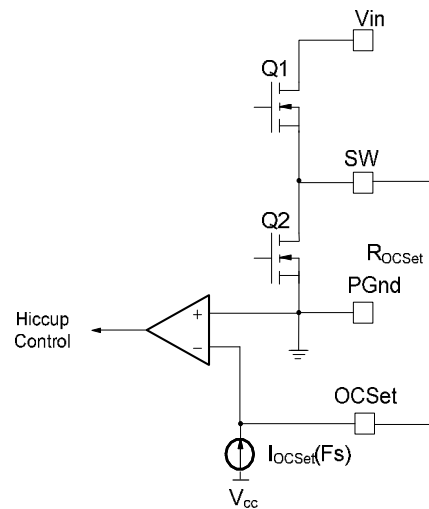

Fig. 7. Connection of over current sensing resistor
The over current protection is performed by sensing current through the R_{DS(on)} of low side MOSFET. This method enhances the converter's efficiency and reduces cost by eliminating a current sense resistor. As shown in figure 7, an external resistor (R_{OCSet}) is connected between OCSet pin and the switch node (SW) which sets the current limit set point.